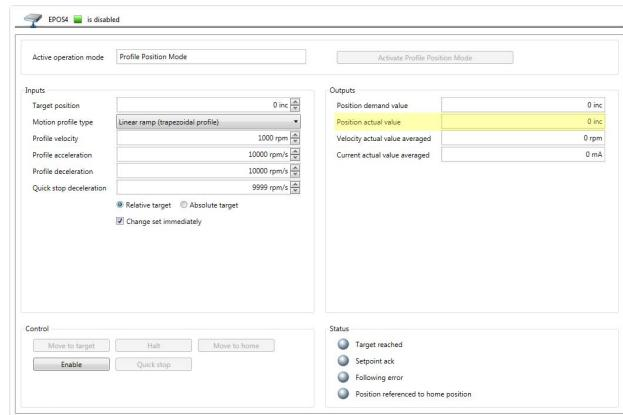

Figure 8-127 Adjustment of SSI commutation offset value | Check sense of rotation
- c) The indication «Position actual value» (→Figure 8-127) must increase.